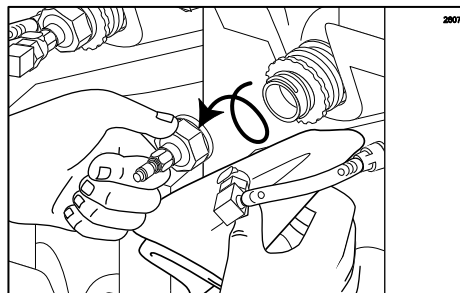

Figure 60
- Using a single service towel beneath the fitment, remove the Syrup Bag Adapter from the syrup bag fitment. (See Figure 60.)